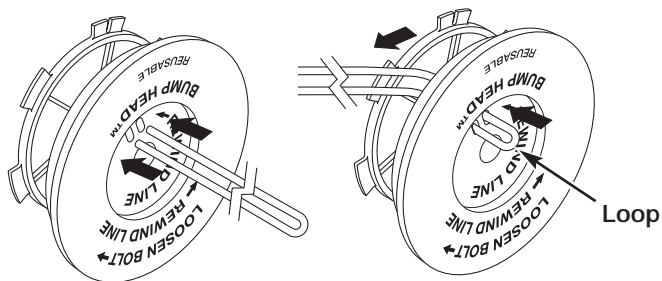

Figure 35
- Take approximately 40 feet (12.2 m) of new trimming line, loop it into two equal lengths. Insert each end of the line through one of the two holes in the inner reel. See Figure 35. Pull the line through the inner reel so that the loop is as small as possible.